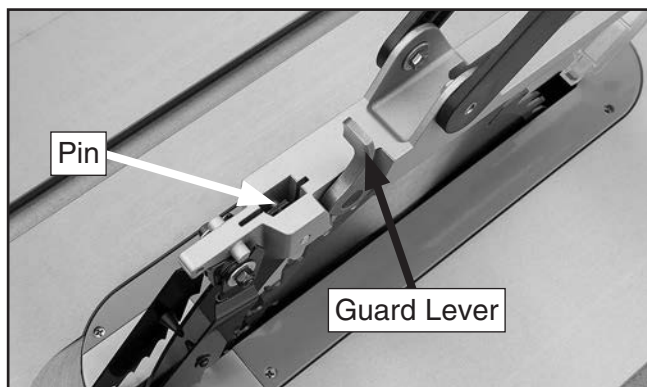

Figure 47. Blade guard installation.
7. Push guard lever forward, as shown in **Figure 47**.
8. Insert rear pin on blade guard into rear slot of spreader, then push down on blade guard assembly so forward pin slides into forward slot of spreader (see **Figure 47**).